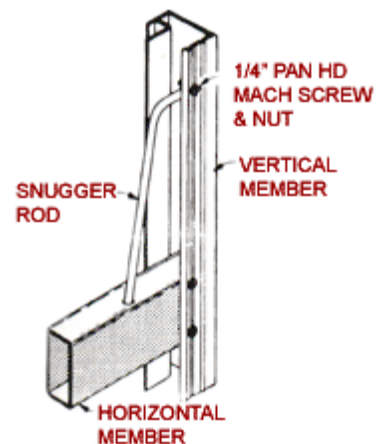

FIGURE 15
- 4.) Secure opposite end of the snugger rod to the vertical member using one (1) $1/4$ " fastener and nut as shown. **Fig.15**.